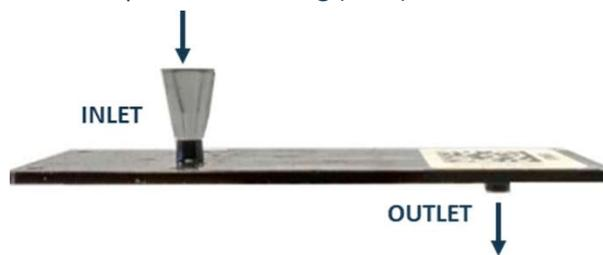

Fig. 3 | ZellSafe™ chip with pipette adapter
6. Place the pipetting adapter on the inlet of the chip (Fig. 3) and rinse the chip with **2x 1 ml ZELLKRAFTWERK sterile storage buffer**. Sterile storage buffer should always be used to avoid contamination.